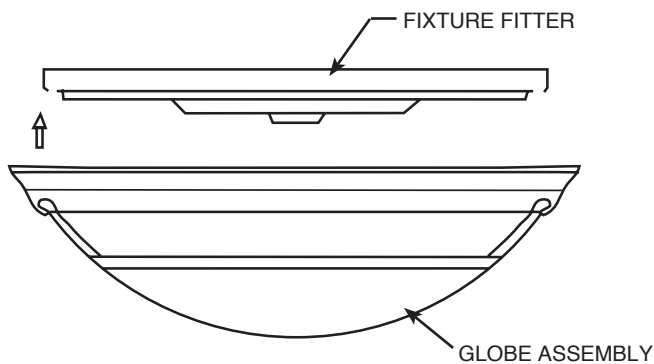

Figure 10
A. Install the glass globe assembly to fixture fitter. See Figure 10.
Lift the globe assembly until it's free to rotate in either direction. Rotate the globe assembly until the (3) screw clearance holes in the globe trim line up with the matching threaded holes in the fixture fitter. See Figures 10 and 10A.